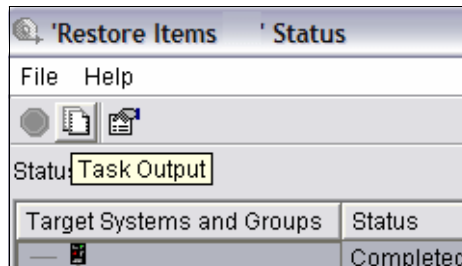

Figure 7-78 BRMS restore - task output
4. Select your job and click **Task Output**, as shown in Figure 7-78.